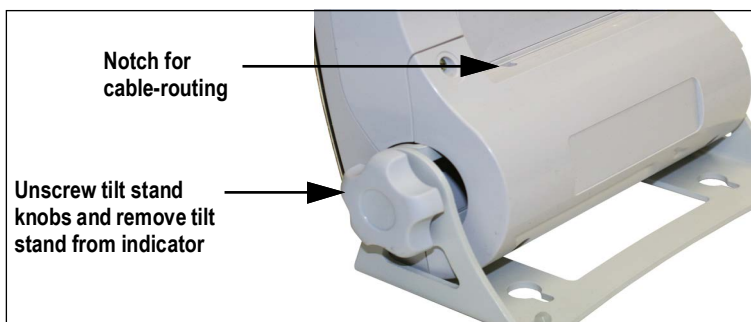

Figure 2-10. Remove Tilt Stand
**NOTE:** Ensure the cable is routed through the notch at the top left of the back cover (see Figure 2-10).